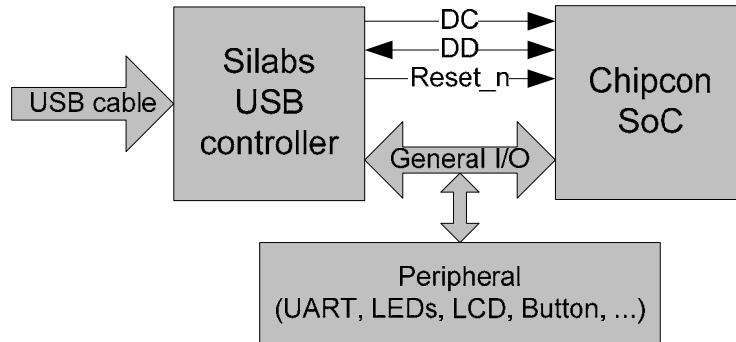

Figure 1: Main components
Figure 1 shows the main components on the SmartRF04EB. A USB cable from a PC is connected directly to the Silabs USB controller. When a SoC evaluation module is pulged into the SmartRF04EB, the only purpose of the USB controller is to “translate” USB signals to the SoC 2-wire debug interface. This interface includes Debug Clock (DC) and Debug Data (DD). The USB controller also controls the reset_n line connected to the SoC.